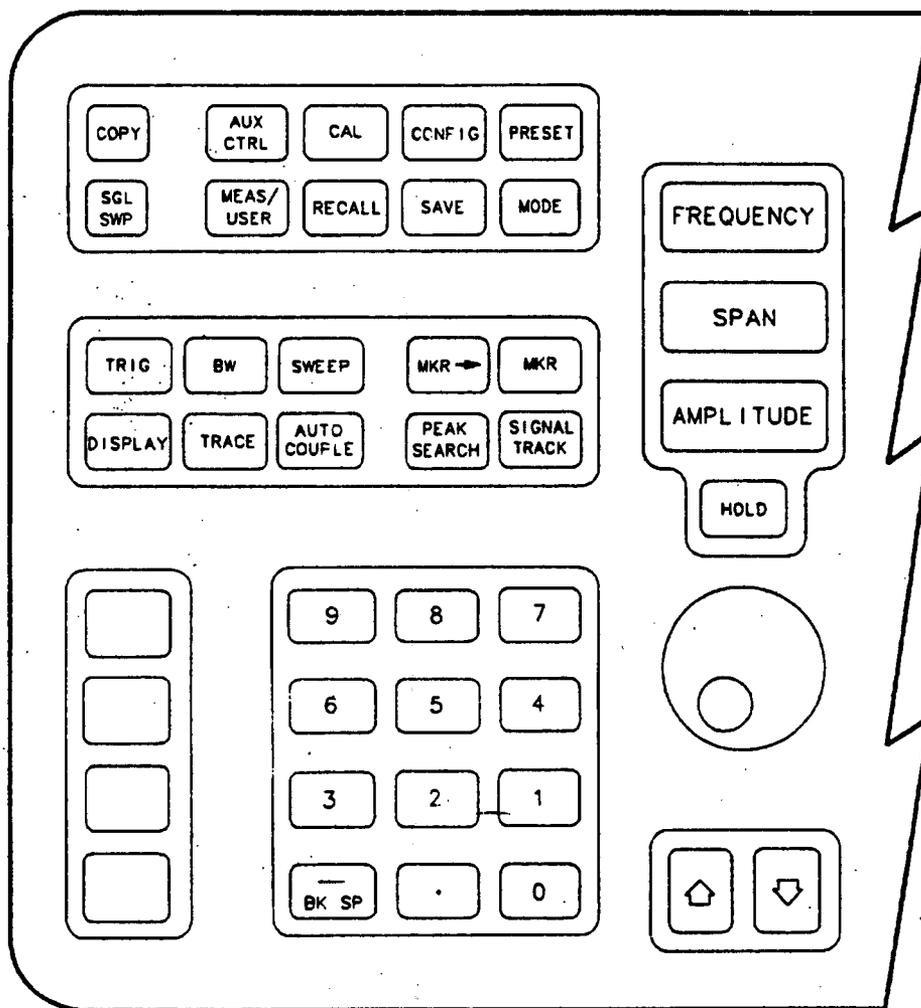

Figure 3-2. A1A1 Front-Panel Key Positions
1. Check that all front-panel keys are correctly placed in the front frame assembly. Figure 3-2 illustrates the positions of all keys as viewed from the backside of the front panel. Make sure that the indented orientation mark located on the back of each key is next to the raised marks located on the front-frame casting next to each key.